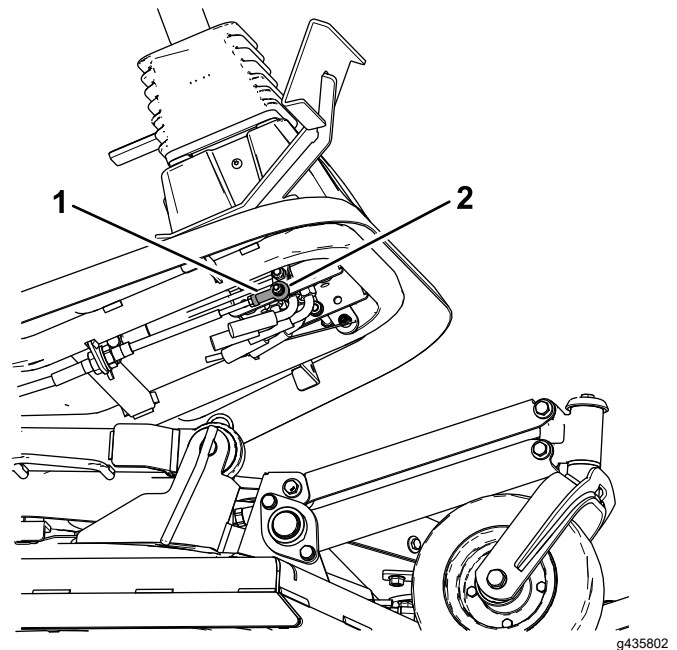

Figure 80
4. Loosen the jam nut securing traction cable rod-end bearing to the pedal (Figure 80).
5. Remove the bolt and nut securing traction cable rod-end bearing to the pedal (Figure 80).
7. Tighten the jam nut (Figure 80) and secure the rod-end bearing to the traction pedal with the bolt and nut removed to lock the angle of the foot pedal.